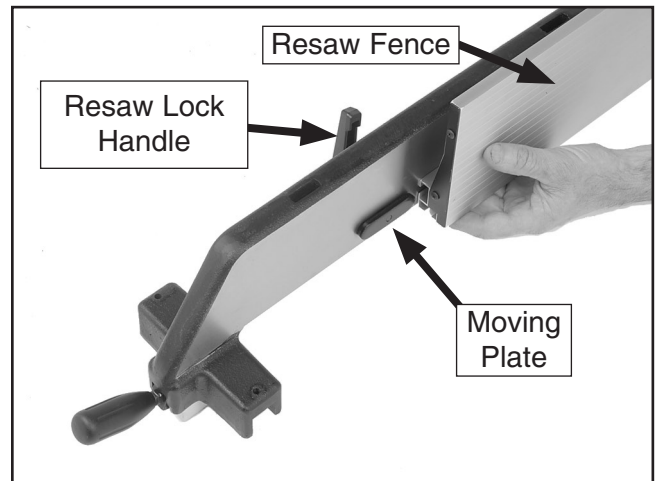

Figure 19. Attaching resaw fence to standard fence.
2. Install the resaw fence lock handle (with the washer and moving plate) onto the fence, then slide the resaw fence over the moving plate as shown in **Figure 19**.